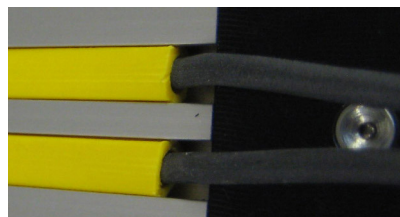

Figure 12: Grooves for proximity switches, details
- ◆ You can use the formerly removed protective covers in order to fix the sensor cables. Please cut the covers to the desired length. A pair of scissors may be used. At the point where the cables are led out, shorten the respective tape 5 to 10 mm additionally (see Figure 12).